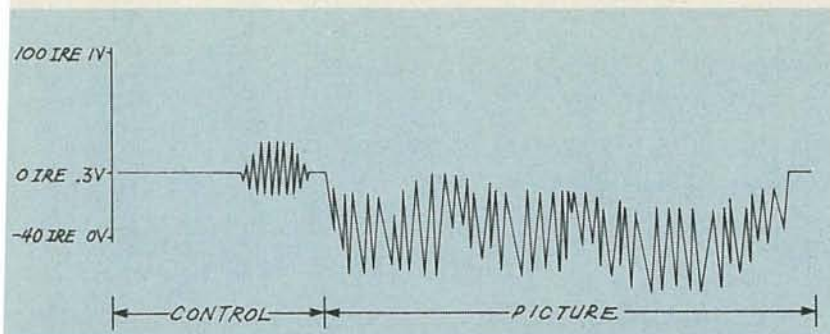

FIG. 2—SUPPRESSED HORIZONTAL SYNC and inverted video is also possible with the SSAVI system.
- Suppressed horizontal sync and inverted video (Fig. 2).